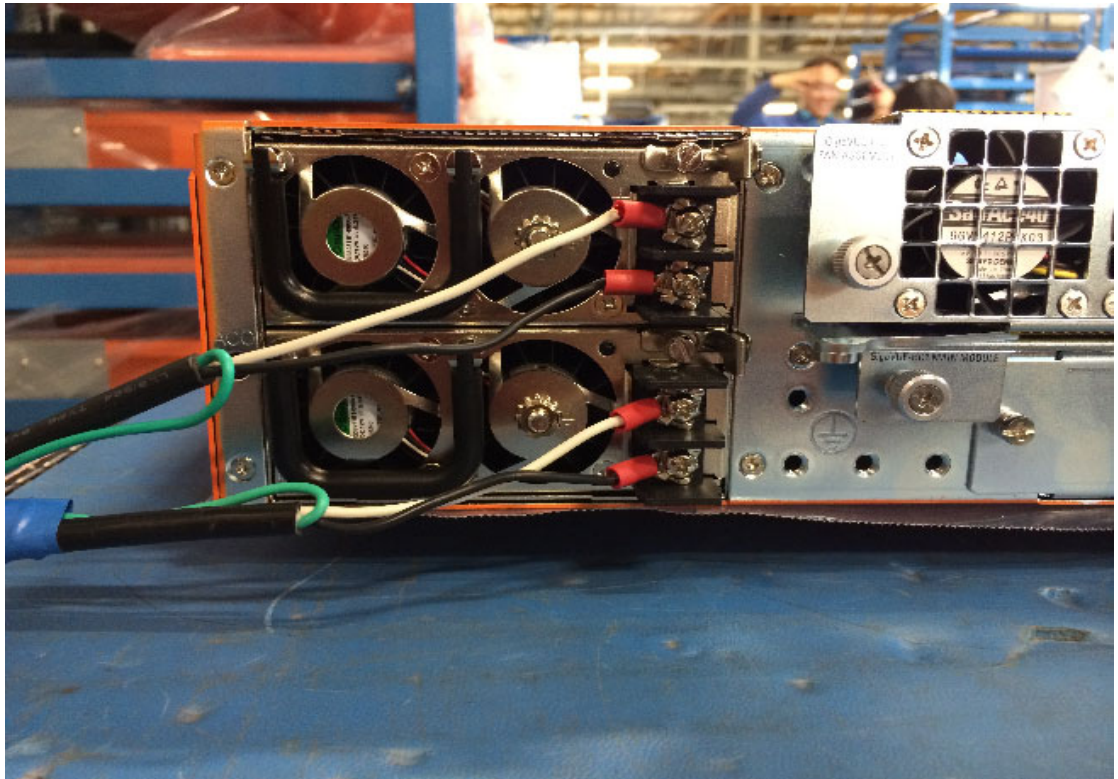

Figure 4-4: DC Power Module
NOTE: For information on connecting the optional DC power modules, refer to Figure 4-4 on page 59.
- IMPORTANT:** As shown in Figure 4-4, the leads to the DC power supplies on the GigaVUE-HC2 node should attach from the side of the chassis **away** from the terminal block. Run the wires to avoid obstructing airflow for the adjacent fans.